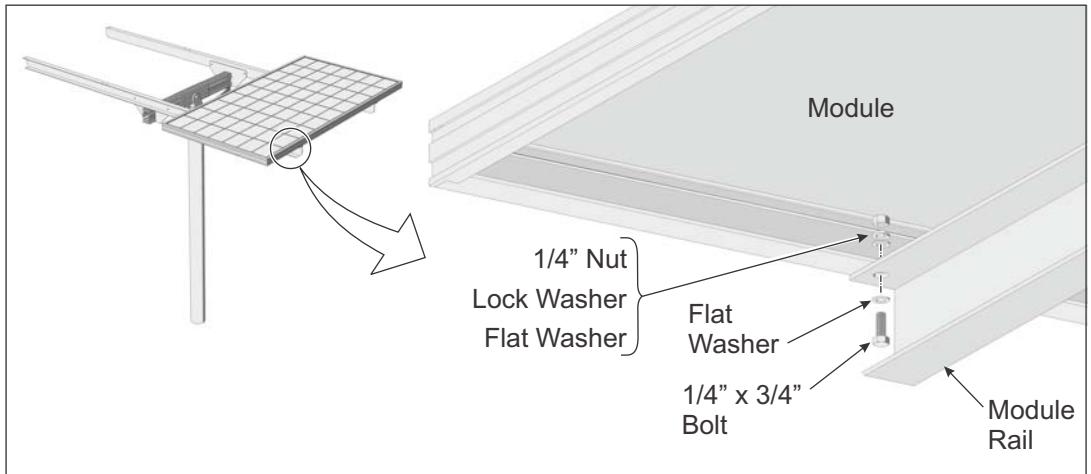

Figure 4-1: Installing PV Modules to Module Rails
- A. Place Module on Module Rails and Align the mounting holes. Secure with 1/4" x 3/4" bolts and hardware; each Module has four attachment points. Finger-tighten for now. (See Figure 4-1)